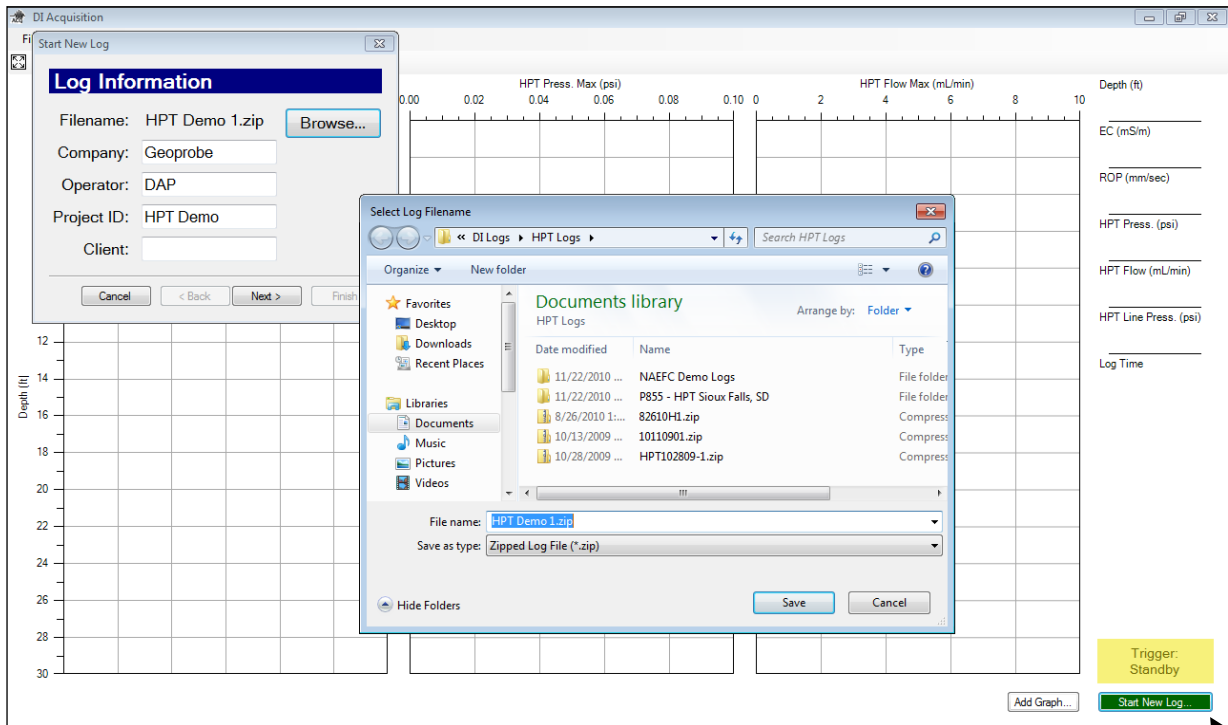

Figure 5.2: DI Acquisition Software – Start New Log Sequence
3. Secure the EC wires into the Green terminal block connector and insert into the FI6000. The wires match to the EC dipoles in the following top down order when the probe tip is on the ground – white, black, yellow and blue (Fig 5.2).
3. Select “Start New Log”. The software will request log information and have you browse for a storage location and create and save a file name for the log (Fig. 5.2).